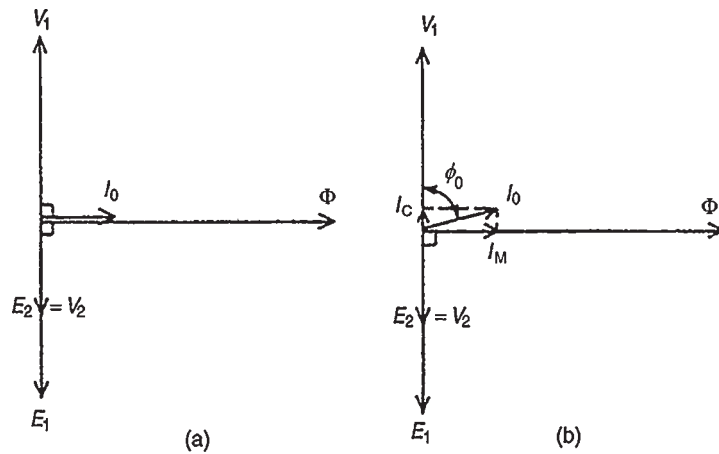

Figure 21.2
the primary winding takes a small no-load current I_0 and since, with losses neglected, the primary winding is a pure inductor, this current lags the applied voltage V_1 by 90° . In the phasor diagram assuming no losses, shown in Fig. 21.2(a), current I_0 produces the flux and is drawn in phase with the flux. The primary induced e.m.f. E_1 is in phase opposition to V_1 (by Lenz's law) and is shown 180° out of phase with V_1 and equal in magnitude. The secondary induced e.m.f. is shown for a 2:1 turns ratio transformer.
A no-load phasor diagram for a practical transformer is shown in Fig. 21.2(b). If current flows then losses will occur. When losses are considered then the no-load current I_0 is the phasor sum of two components – (i) I_M , the magnetising component, in phase with the flux, and (ii) I_C , the core loss component (supplying the hysteresis and eddy current losses). From Fig. 21.2(b):
- (c) From the right-angled triangle in Fig. 21.2(b) and using Pythagoras' theorem, $I_0^2 = I_C^2 + I_M^2$ from which, magnetising current,